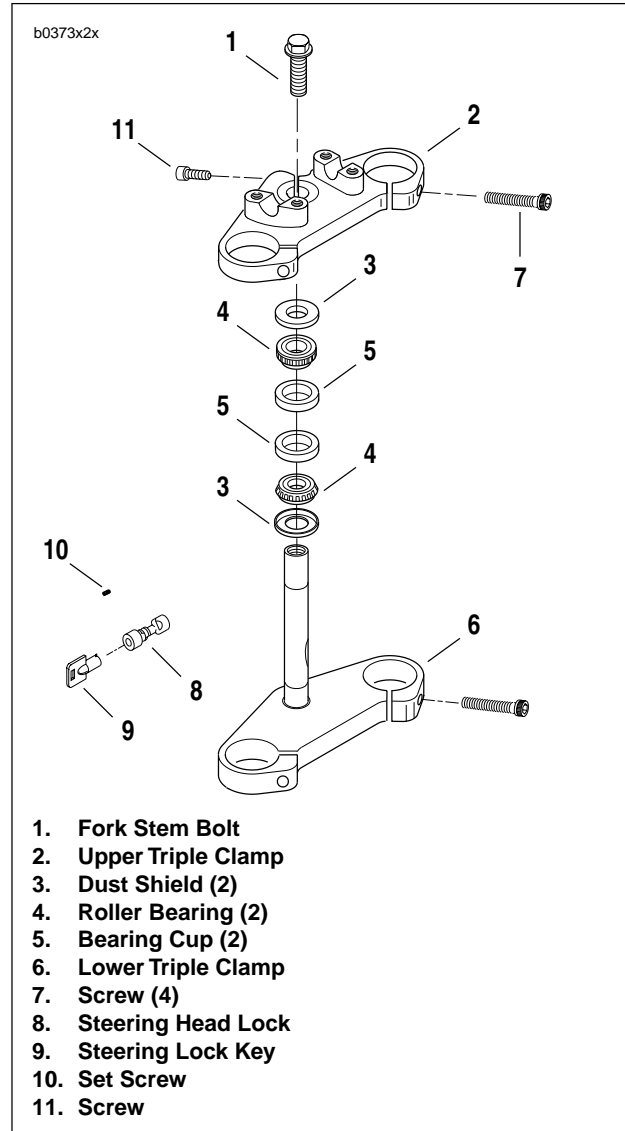

Figure 2-66. Fork Stem
4. See Figure 2-66. Remove all upper triple clamp screws (7, 11), fork stem bolt (1) and upper triple clamp (2).
5. Remove upper dust shield (3) and roller bearing (4).
- a. Remove two lower triple clamp screws (7). Pull the lower triple clamp (6) downward.
- d. Remove lower dust shield (3).
7. If replacement of bearing cups (5) is necessary, drive cups from steering head using STEERING HEAD BEARING RACE REMOVER (Part No. HD-39301A) and UNIVERSAL DRIVER HANDLE (Part No HD-33416).
1. See Figure 2-66. Clean the dust shields (3), bearing cups (5), fork stem and lower triple clamp (6) and frame with solvent.
2. Carefully inspect bearing races and assemblies for pitting, scoring, wear and other damage. Replace damaged bearings (4) as a set (3, 4 and 5).
3. Check the fork stem and lower triple clamp (6) for damage. Replace if necessary.
2. See Figure 2-66. Liberally coat the bearing cones (4) with grease using WHEEL BEARING PACKER TOOL (Part No. HD-33067). Work the grease into the rollers.
- a. Place lower bearing dust shield (3) over fork stem.
- c. Press bearing (4) with small end up onto fork stem and lower triple clamp (6). Use the pipe as a press-on tool.
4. Insert lower triple clamp (6) through the steering head. Install the upper bearing (4) with small end down and dust shield (3) onto fork stem.